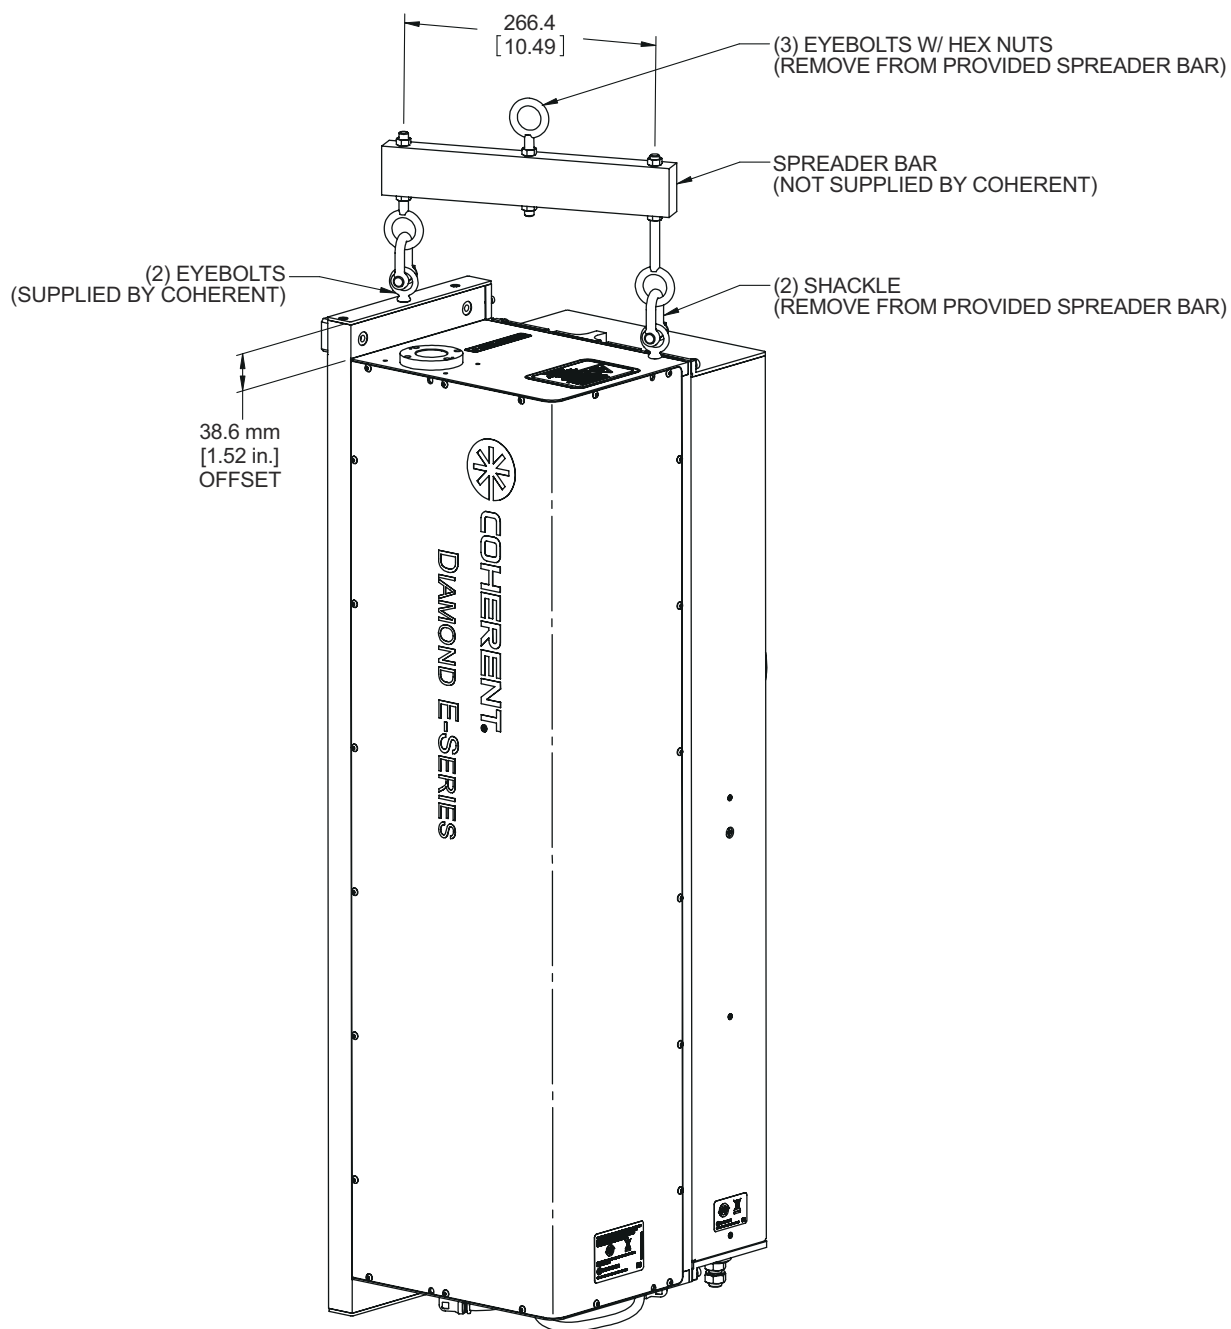

Figure 3-27. Vertical Mounting Illustration
1. Install eye-bolts into screw holes. Do NOT use the top eye-bolt locations during vertical lift (refer to Figure 3-27).
2. Securely connect appropriate slings or chains to the eye-bolts and spreader bar. Chains/slings must be vertical when under load. See Figure 3-27.
3. Carefully lift the laser system while preventing the free end from moving around. See Figure 3-27.